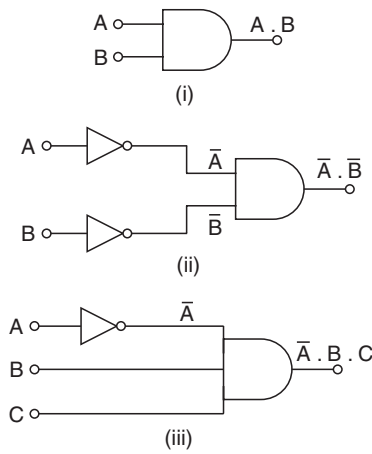

Fig. 18
- The first term $A \cdot B$ is obtained by ANDing A with B as shown in Fig. 18(i).
- The second term $\overline{A} \cdot \overline{B}$ is obtained by using two INVERTERS and one AND gate and connecting them as shown in Fig. 18(ii).
- The last term is used by using one INVERTER one AND gate and connecting them as shown in Fig. 18(iii).